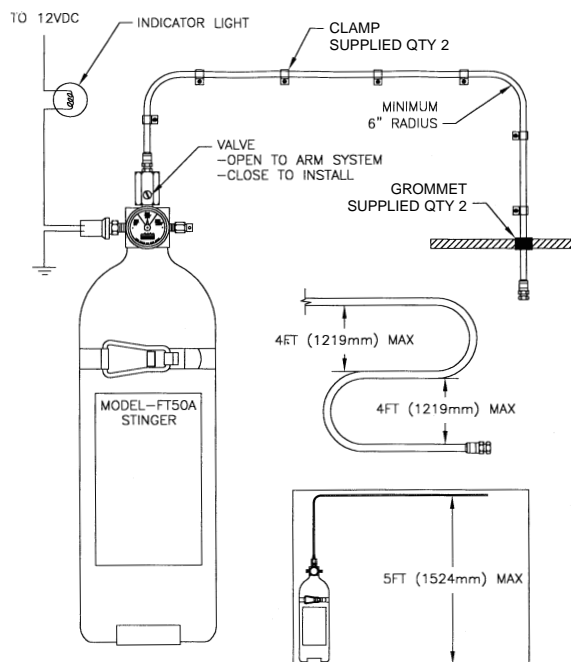

Figure 6
Step 6 Feed detection tube into the compartment. Ensure rubber grommets (supplied) are used when tubing is fed through a bulkhead. (See Figure 6)
WHEN INSTALLING THE DETECTION TUBING, DO NOT KINK THE TUBING AND DO NOT EXCEED THE MINIMUM BEND RADIUS. FAILURE TO FOLLOW THESE DIRECTIONS CAN RESULT IN A SYSTEM FAILURE. (See Figure 6)